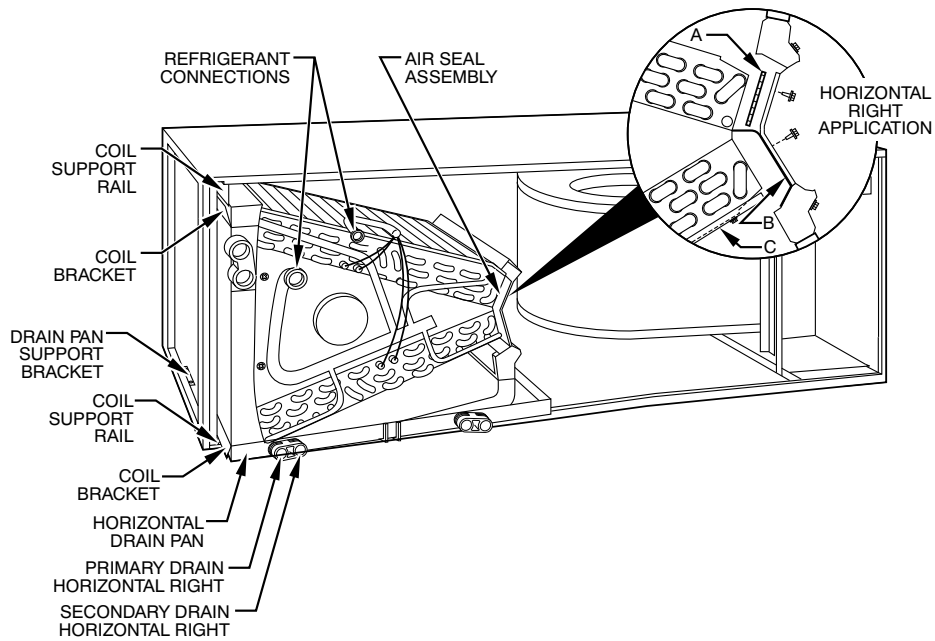

Fig. 6 – Conversion for Horizontal Right Applications - A-Coil
1. Remove blower and coil access panels and fitting panel (Fig. 6).
1. Remove blower and coil access panels (Fig. 6).
- a. Remove air seal assembly from coil by removing 4 screws (Fig. 6).